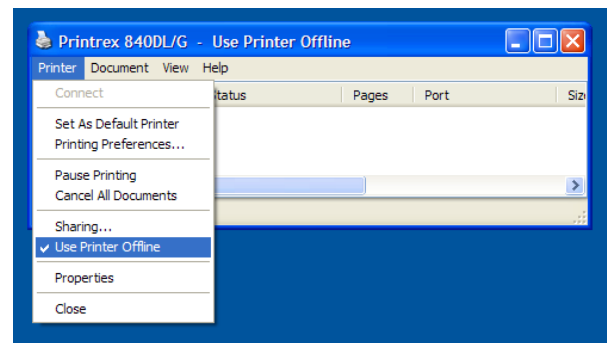

Figure C-2: *If needed*, set printer Online
3. **If** the title bar of the queue window includes “- Use Printer Offline”, go to the Printer menu of the queue and select 'Use Printer Offline', to toggle the check to disappear (Figure C-2).